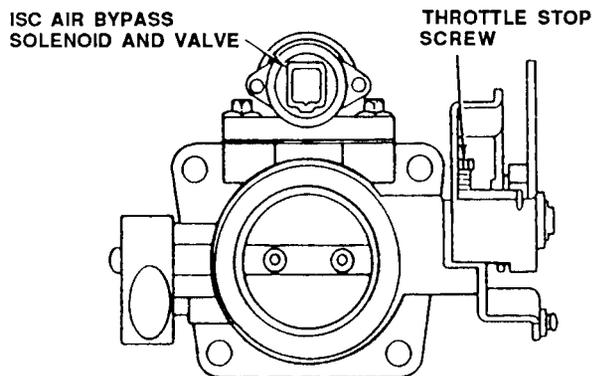

Figure F050-15
1. Place the transmission in park (AT) or neutral (MT).
4. Tighten the throttle stop screw (Figure F050-15), so that it touches the feeler gauge; then turn it another 1-1/2 turns.